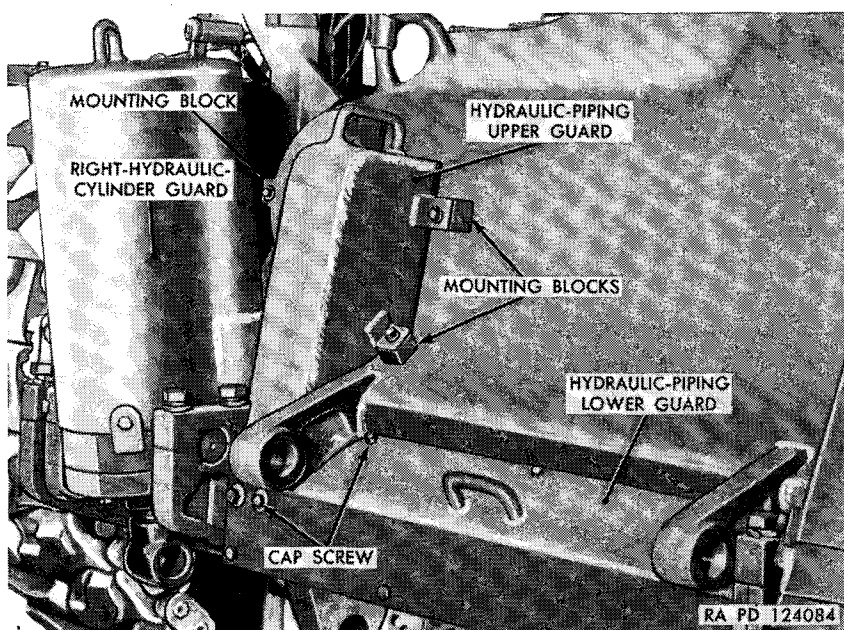

Figure 15. Hydraulic-piping upper and lower guards.
k. Again position the guard and secure it in place with four bolts and washers along the bottom edge and three bolts and washers along the top edge (fig. 15).
q. Position the upper guard and secure it to the three mounting blocks and to the lower guard (fig. 15).